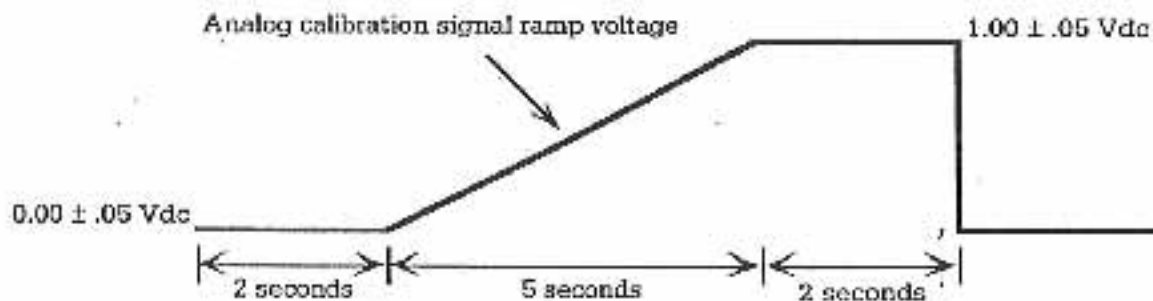

Figure B-1. Analog calibration signal
A repeating, full-scale (0 to 1 volt), 0.25 Hz trapezoidal wave appears at the analog output; see Figure B-1.
5. Follow the chart recorder instructions and adjust its recording to reflect the voltage levels and the time spans as shown in Figure B-1.